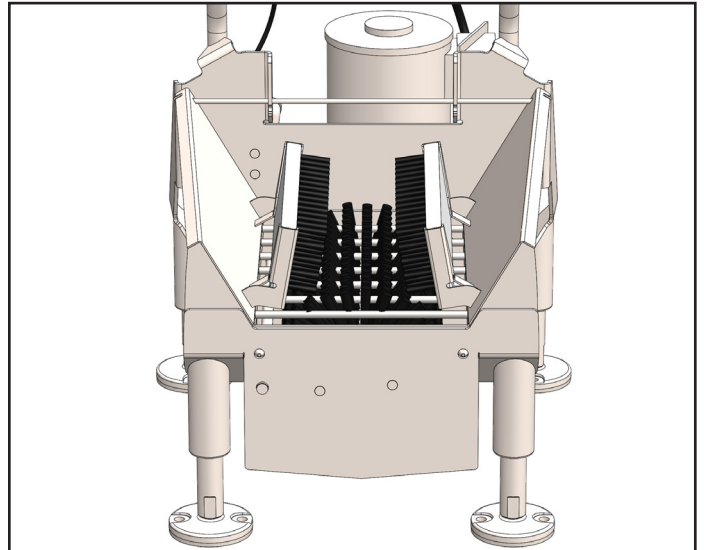

Fig. 22.1: Level and stabilize unit using a leveling device
3. Use a level to make sure the unit is stable and leveled at each end of the tub [Figure 22.1].